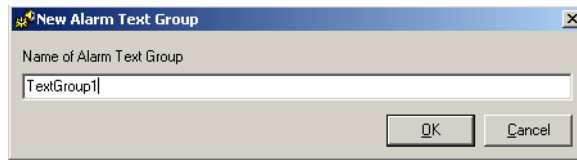

Figure 36. Adding an Alarm Group
- 3. To add a new group, click **Add**. This displays the New Alarm Text Group dialog, Figure 36. Enter a name for the new group in this dialog. To change an existing group, **Delete** the text group from the list and add a new text group.